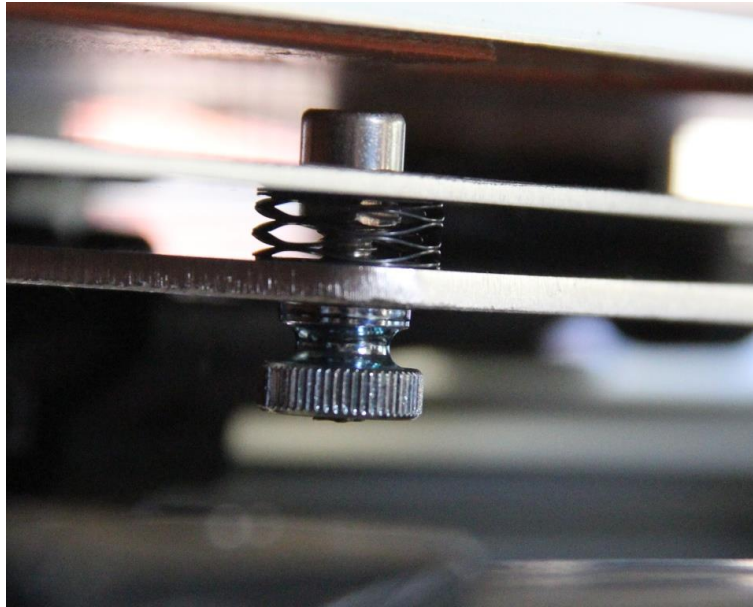

Figure 2.34: The bottom of thumb screw being flush with the bottom of hex screw
- Adjust the 3-point bed leveling thumb screws to let the bottom of hex screw be flush with the bottom of thumb screw (Figure 2.34). This operation is to ensure